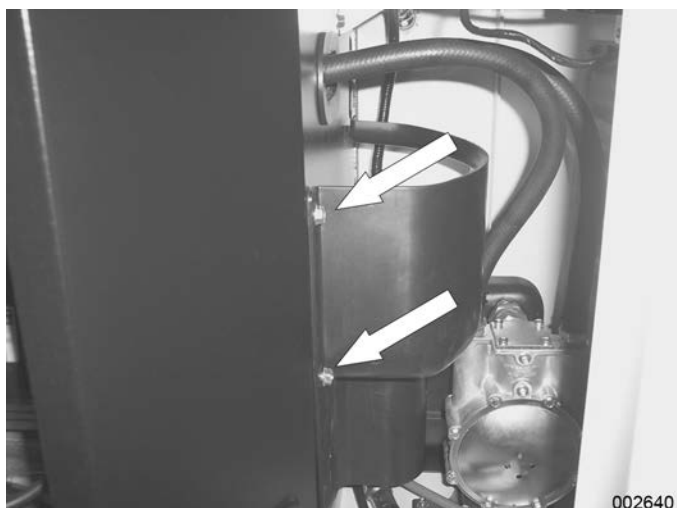

Figure 6-6.
7. **Remove engine intake baffle:** See Figure 6-6. Use a 10mm socket to remove the two bolts from the engine intake baffle. There are tabs holding the backside of the baffle to the divider panel. Pull baffle forward carefully.